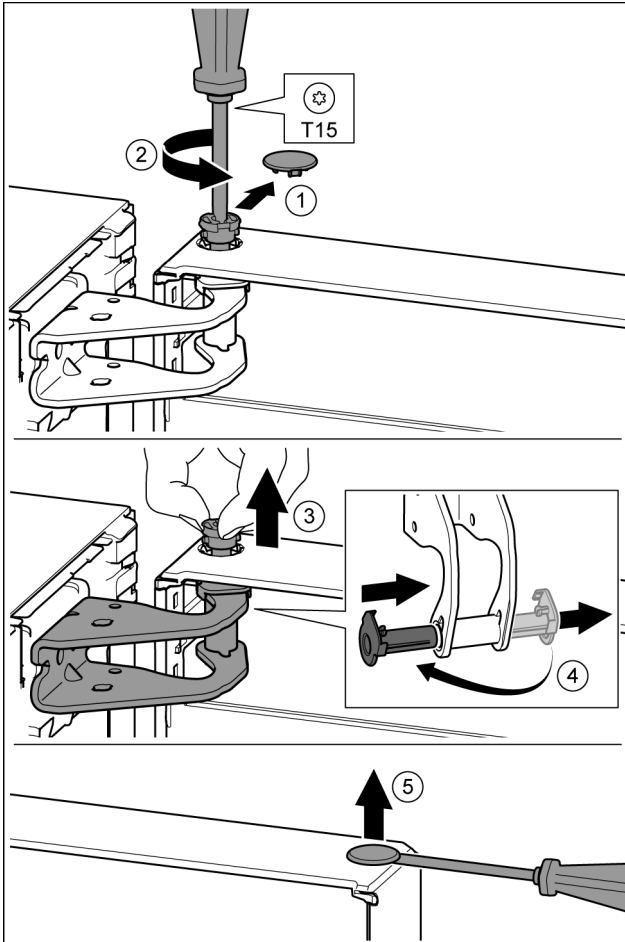

Fig. 22
- ▶ Carefully remove the protective cover. Fig. 22 (1)
- ▶ Undo the bolt a little with a T15 screwdriver. Fig. 22 (2)
- ▶ Hold the door and remove the bolts with your fingers. Fig. 22 (3)
- ▶ Pull the bearing bush out of the guide. Insert from the other side and click into place. Fig. 22 (4)
- ▶ Carefully lift the plugs out of the door bearing bush with a slotted screwdriver and remove. Fig. 22 (5)